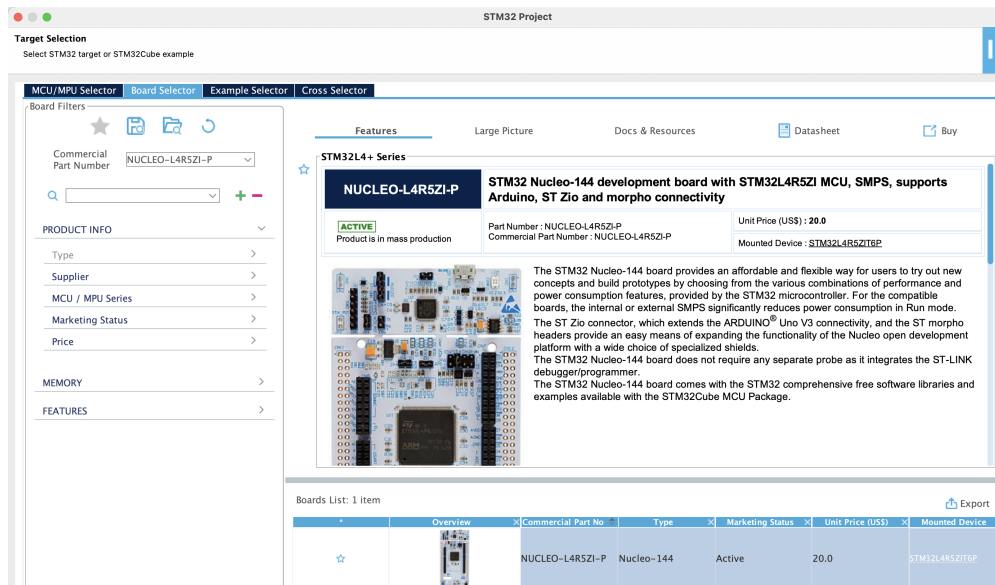

Figure 1: Board Selector during project setup.
- In the Board Selector, choose **NUCLEO-L4R5ZI-P** (see Figure 1).